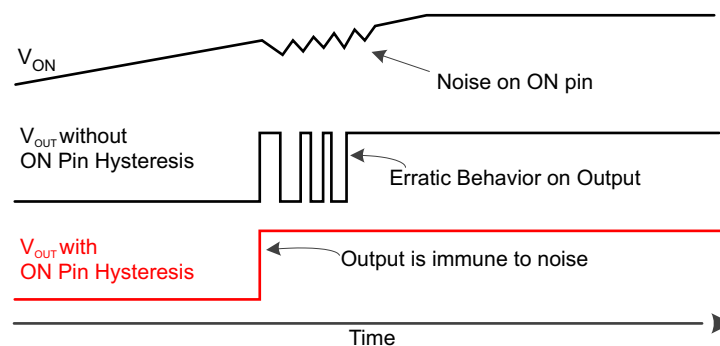

Figure 10. ON Pin Hysteresis
- ON pin hysteresis allows for more robust GPIO enable. With a voltage difference between a logic level high and logic level low on the ON pin, the control circuitry will operate as intended when there is noise on the GPIO line. Figure 10 illustrates how ON pin hysteresis can provide robustness on the GPIO enable line.